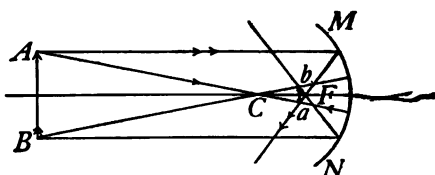

FIG. 360.—Real image formed by a concave mirror.
of the reflecting surface may be. If the reflecting surface is a regular concave surface, like the inner surface of a sphere, the rays of light coming from a point source may after reflection come to a focus, forming a real image. The two extreme points of an object should be selected for locating its image; Fig. 360 shows the construction. The real images formed by concave mirrors are always inverted. The principal focus of a concave mirror may be observed by holding the mirror in a beam of sunlight entering a darkened room. The sun's rays after reflection converge to form a small, round, intense spot of light, which is a real image of the sun, located at the principal focus of the mirror. The distance of the principal focus from the mirror is the least distance that a real image can be formed in front of a concave mirror.
There are two ways by means of which the image formed at each of these positions may be located, namely: (1) *experimentally*, by allowing the rays of light from a luminous body to focus on a screen and (2) *diagrammatically*. By the latter method the two rays of light are considered the course of each of which may easily be determined; first, the ray which strikes the mirror parallel to its principal axis and which after reflection passes through the principal focus; second, the ray which passing through the center of curvature strikes the mirror at right angles and therefore after reflection must pass directly back along its incident path. Where these two reflected rays intersect is located the real image of the object. Whenever these two rays of light do actually intersect, as in Fig. 360, a real image ($a\ b$) is formed of the object AB .